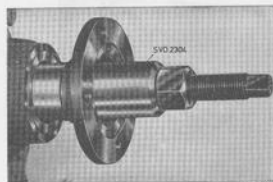

Fig. 4-25. Fitting flange
4. Press on the flange with tool 2304, see Fig. 4-25. Fit the remaining parts.